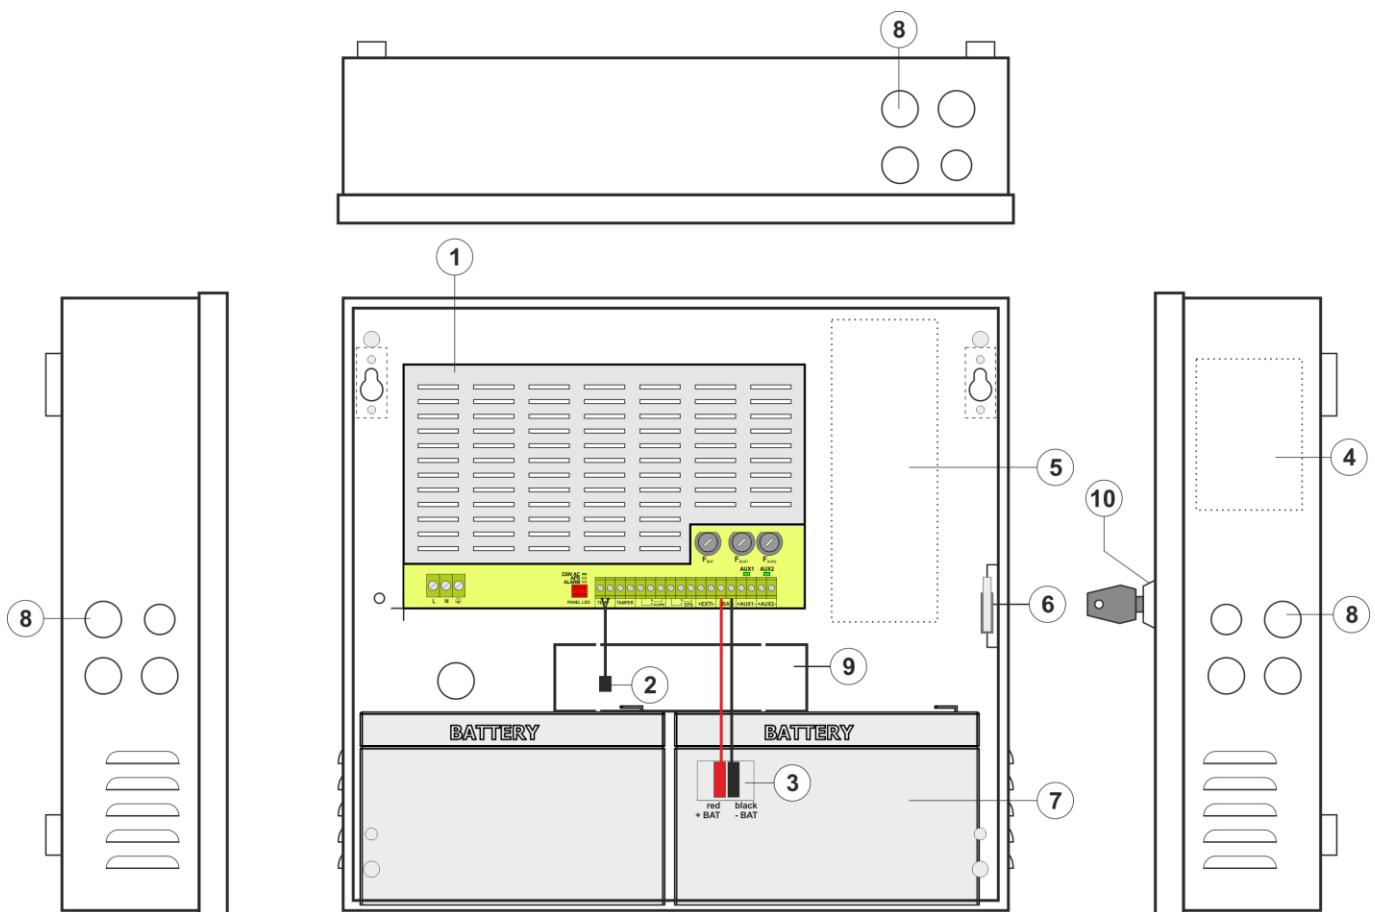

Fig. 3. View of power supply based on EN54C-2A7LCD
**Table 2. Elements of PSU (Fig. 3).**
5. Install the batteries in a designated area of the enclosure (see Fig. 3). Connect the batteries with the PSU paying special attention to the correct polarity. Batteries must be connected in series using the special cable (included). Attach the temperature sensor to any of the batteries with mounting tape (included). Place the temperature sensor between the batteries.